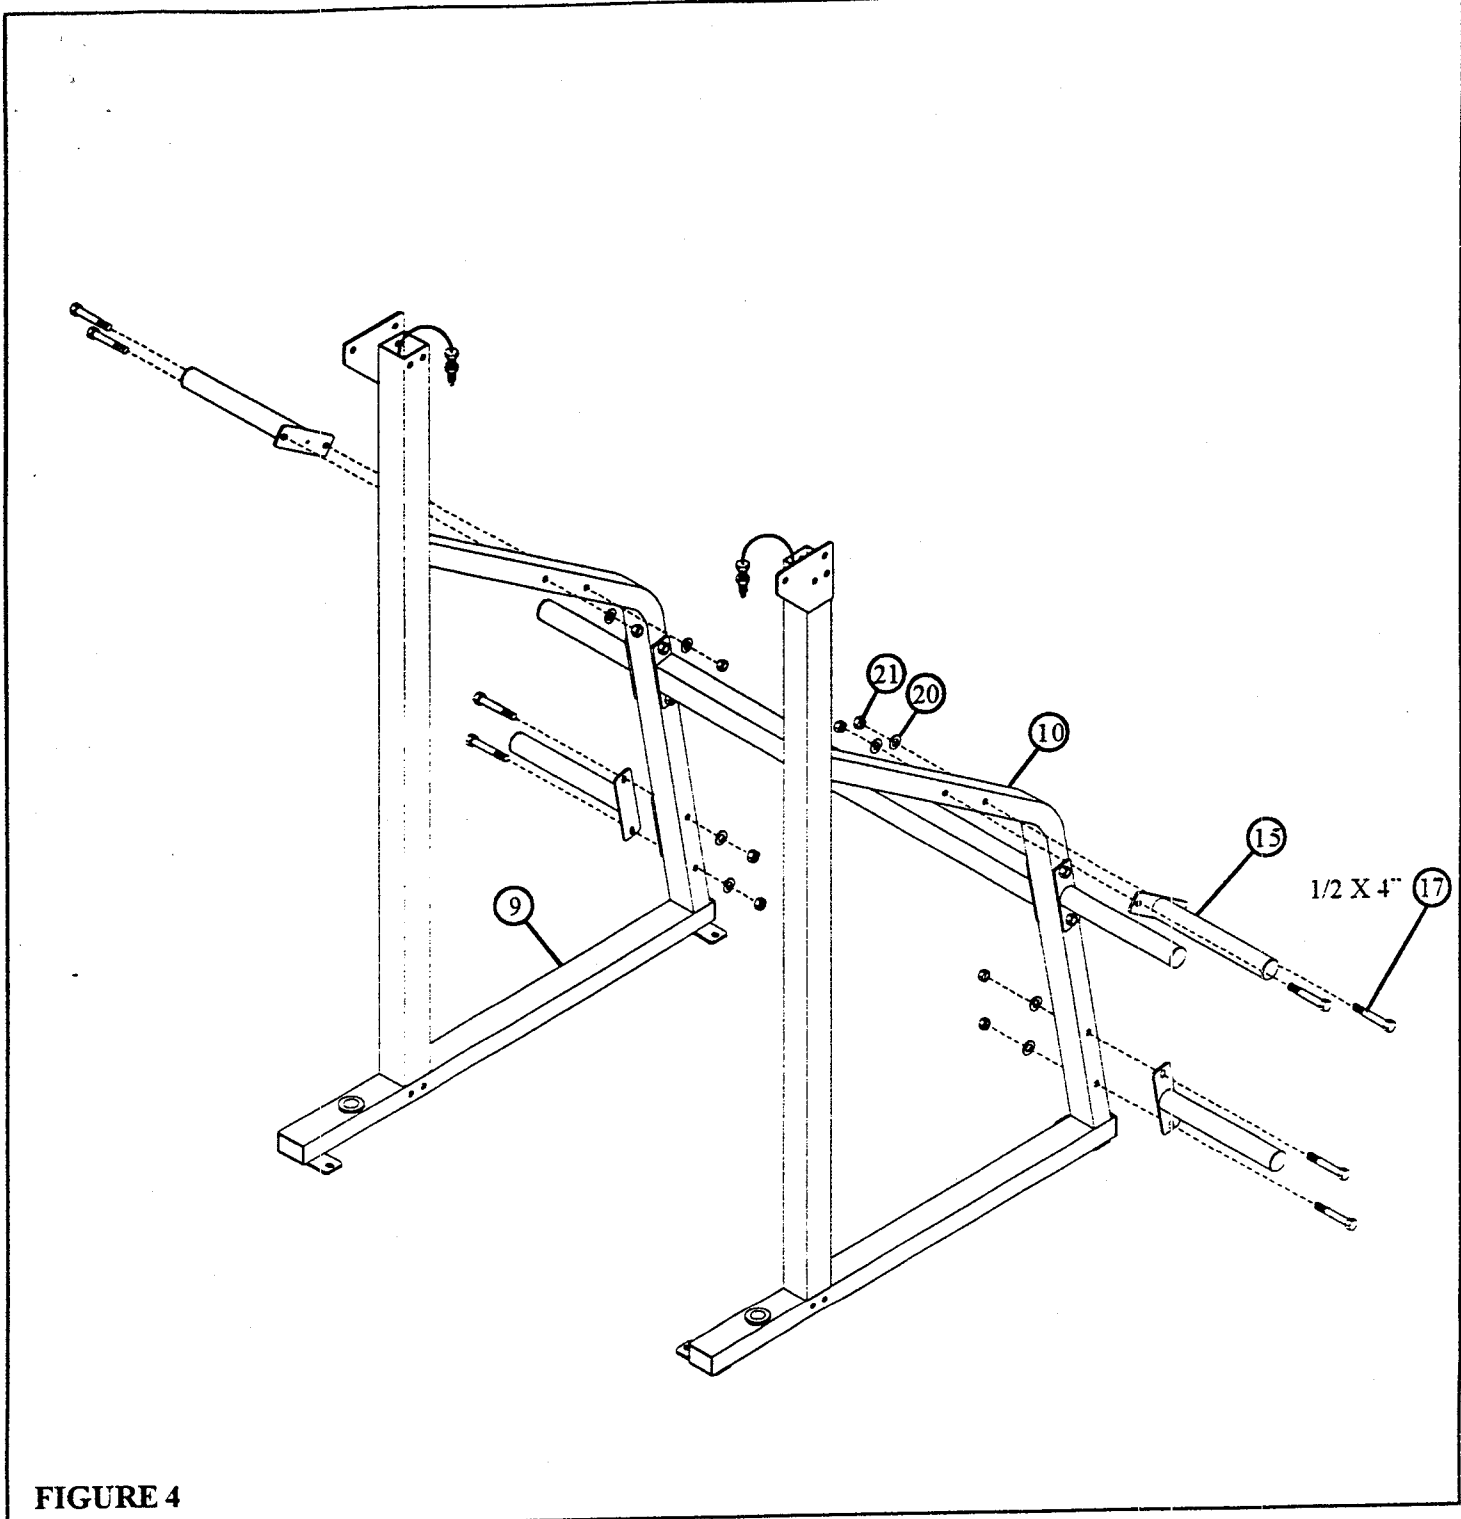

**FIGURE 3**
- **LOOSELY** assemble the **LOWER SUPPORT (3)** and two **PLATE HOLDER (15)** to the **LEFT & RIGHT UPRIGHTS (9 & 10)** using four **1/2 X 4-1/2" BOLTS (16)** and four **1/2" LOCK NUTS (21)** as shown in **FIGURE 3**.